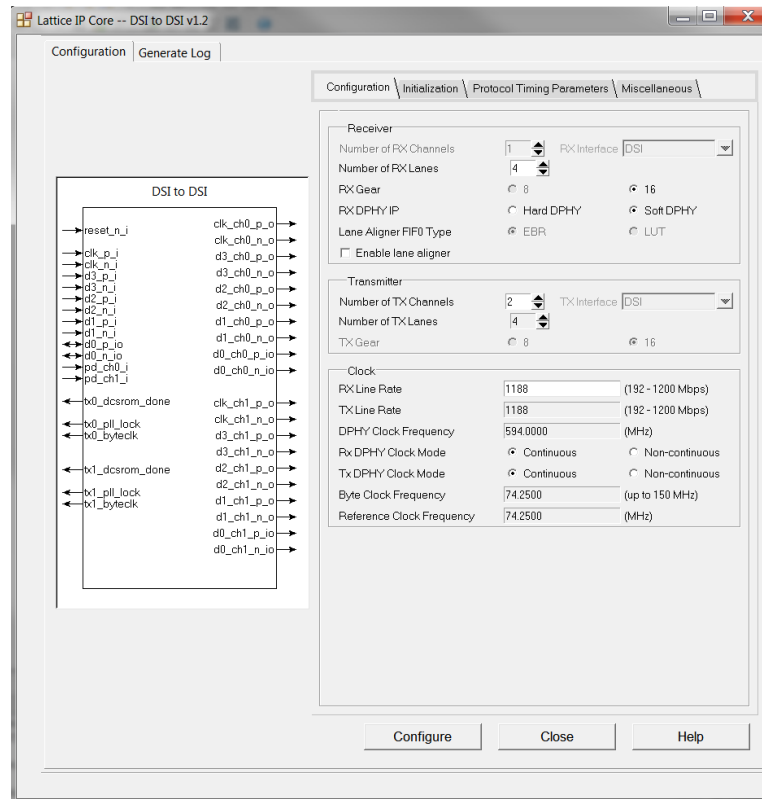
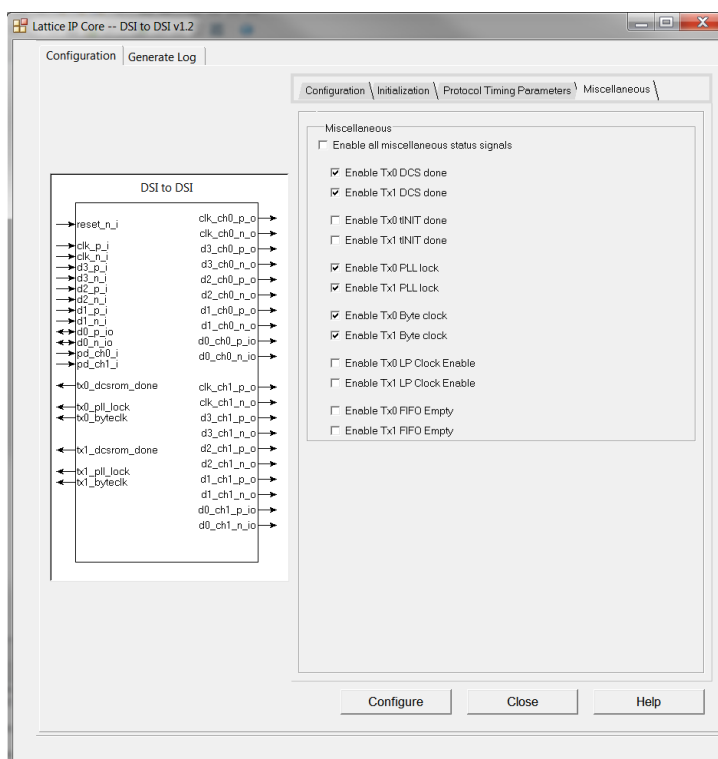

Figure 4.4. Configuration Tab in IP User Interface
Figure 4.7. Miscellaneous Tab in IP User Interface
3. Click the **Customize** button. An IP configuration interface is displayed as shown in Figure 4.4 to Figure 4.7. From this dialog box, you can select the IP parameter options specific to your application.